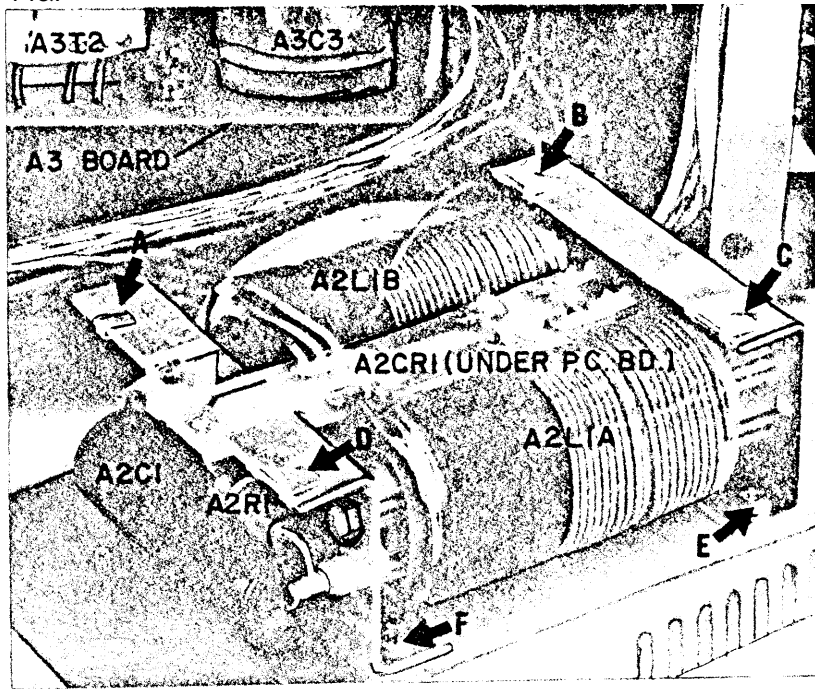

Figure 7-1. A2 RFI Assembly Component Location Diagram
a. Component location diagrams (Figures 7-1 through 7-8, and 7-10), showing the physical location and reference designators of parts mounted on the printed circuit boards and chassis.
c. Schematic diagram (Figure 7-1 1), illustrating the circuitry for the entire power supply. Voltages are given adjacent to test points, which are identified by encircled numbers on the schematic.